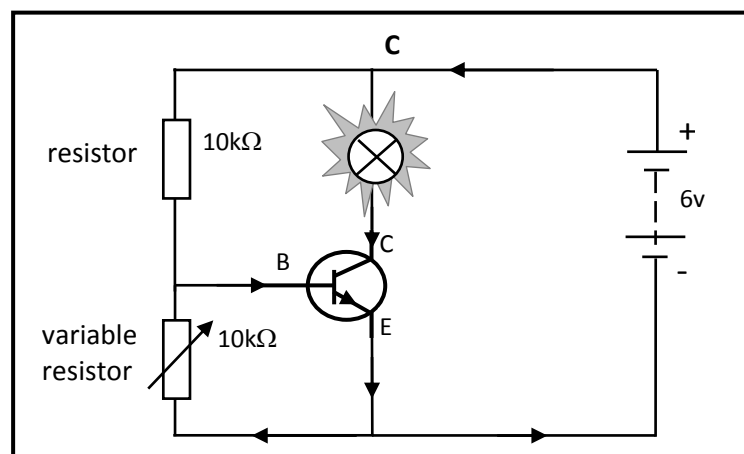

Figure 29. A transistor as a switch
In diagram(C) of figure 29, the resistor and a variable resistor are being used as a potential divider. You should know that the variable resistor has no resistance. The voltage across it is zero and the transistor stays switched off. Now that the resistance of the variable resistor is increased, its share of the battery voltage also increases. When it passes about 0.6 volts the transistor switches on and the bulb lights. This principle is used in transistor switching circuits.